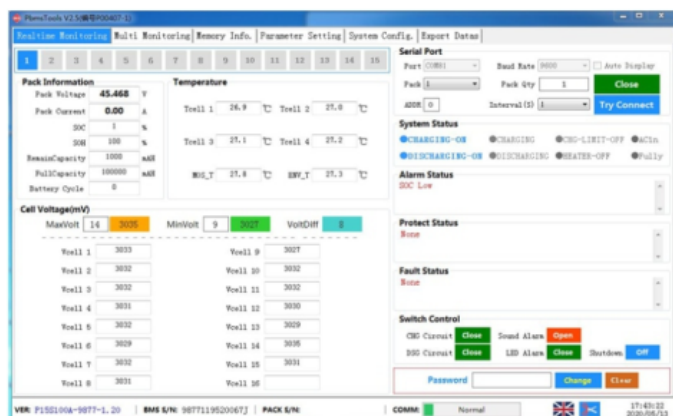

Figure 20: Realtime Monitoring
(1) Double click Pbms Tools .exe icon can show the main interface of the software (As shown in figure 20).
(2) Open the main interface (As shown in figure 20), the software will search serial port and open automatically, and read the battery voltage, temperature, protection state and other battery parameters in real time. Operating authority is divided into general permissions and administrator permissions.